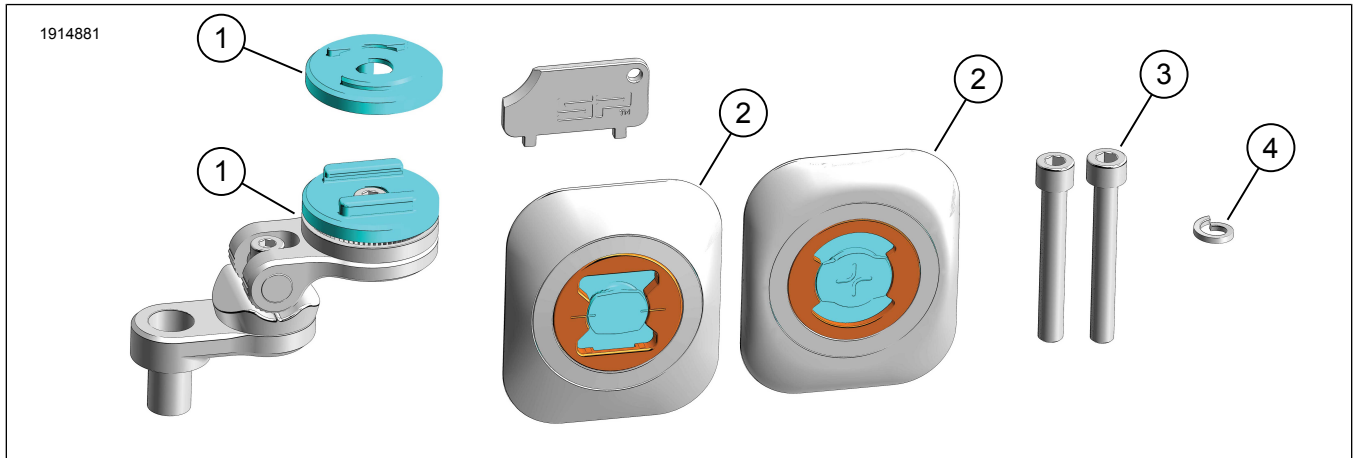

Figure 1. Kit Contents: Universal Phone Carrier w/ Clutch Mount
1. Figure 1 Install universal interface (2).